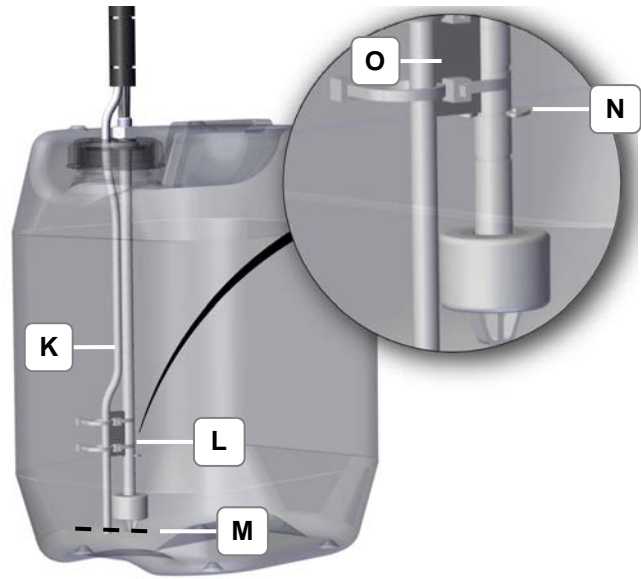

Figure 4.5.5: Water hose and cable
<p>Pump Operation</p> <ul style="list-style-type: none"> The trouble-free functioning of the pump operation is guaranteed when water hose (K) and cable (L) are set to the same level (M) (Figure 4.5.5)-